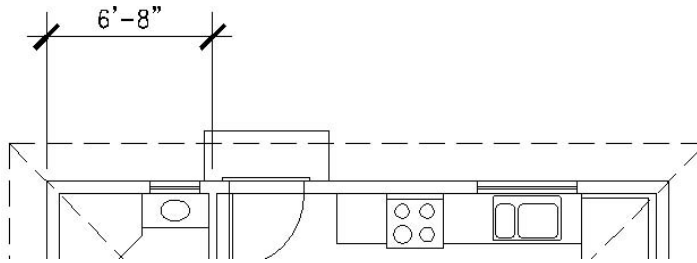

FIGURE 11.14: The result of zooming and panning for a view of the top of the floor plan
1. Zoom out and pan until you have a view of the upper wall and roof line, with space above them for dimensions (see Figure 11.14).